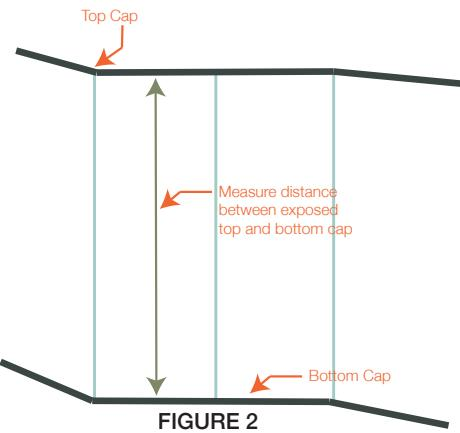

FIGURE 2
3. Install 1st panel, then measure the distance between the top and bottom exposed edges of the cap trim. Use this measurement to cut divider, inside corners and outside corners. (See Figure 2)
5. Apply micro sealant interconnection [see fig.2] (one per joint) at joint(s). Allow for a 50% overlap. Press firmly to back and bottom of base.